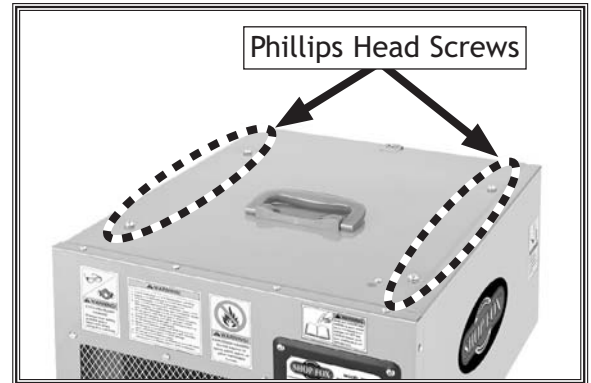
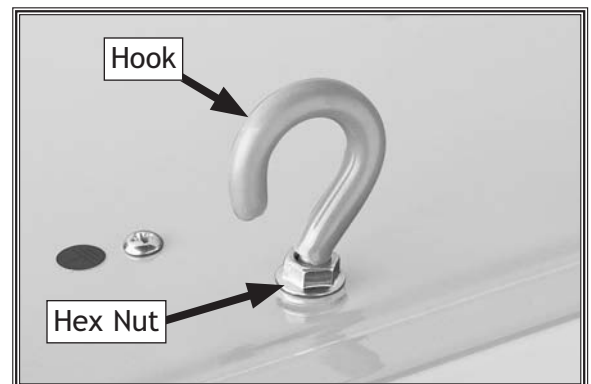

Figure 9. Remove these Phillips head screws.
Figure 10. Machine hook installed.
1. Replace the four Phillips head screws shown in **Figure 9** with the four provided machine hooks (see **Figure 10**).